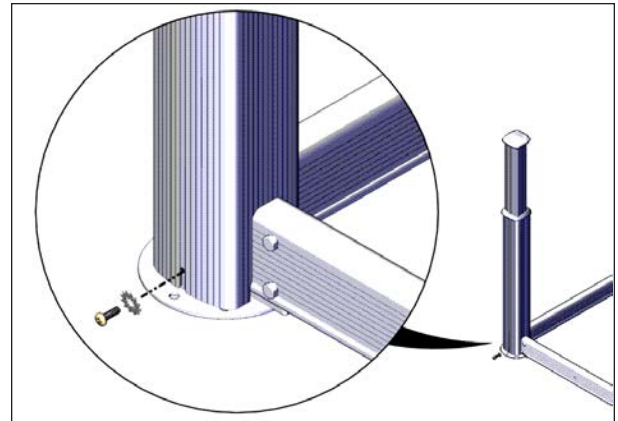

FIGURE 83: SLEEVE BOTTOM SCREW
1. Partially unscrew the M6 x 20 mm Phillips screw located at the base of the external sleeve of the post, see Figure 83.